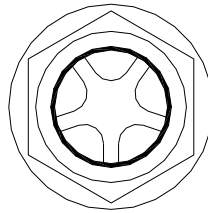

Figure 2.2b: oil level glass and draining plug (only VMS 43/53)
Make sure the Audionvac is in the OFF position. If necessary switch the main switch to the OFF position (see fig. 3.1) before one can start with the process of connecting the power supply. In order to be able to check the oil level the machine must be at a flat underground, well leveled. The oil level glass (figure 2.2b) has been mounted in one of the sides of the machine, or in the backside of the machine. The oil level must lie between the signs: "MIN" and "MAX". For the machines the rule is that the oil reservoir must be filled until **80%**. An exception is the VMS43 from which the oil reservoir must be filled only until **60%**. A little less oil is better than a bit more. In practice this means that the oil in the oil reservoir mustn't be higher than 2mm above the measurement point in the middle of the measurement-glass.
- When there is no oil drain plug present, the oil level glass functions as drain plug (figure 2.2b).